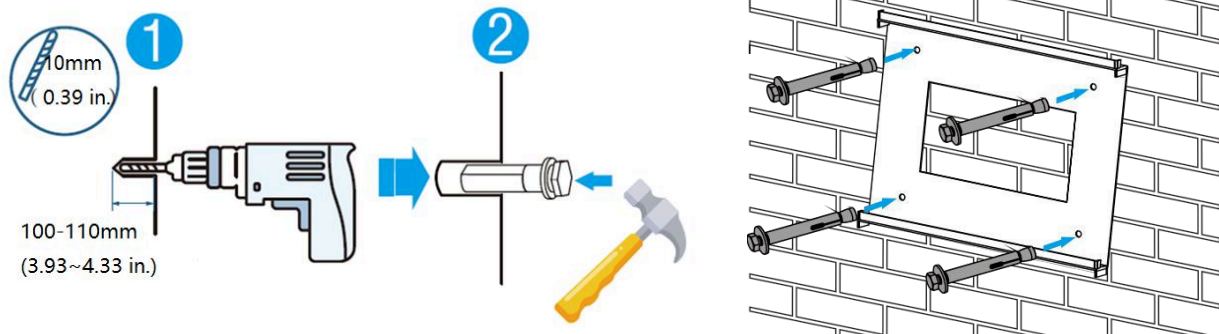
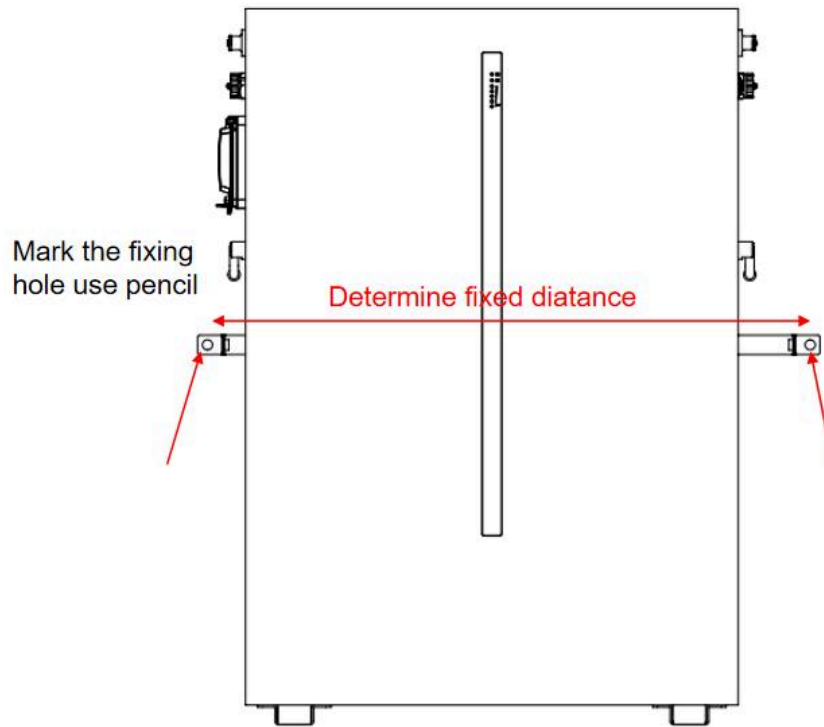

Figure 5-2
Figure 5-5
b) Choose the recommend drill head (as shown in Figure 5-2) to drill 4 holes on the wall, 100mm-110mm deep.
c) Use a proper hammer to fixing the hanging plate to the wall, fit the expansion bolt into the holes, as shown in Figure 5-2.
b) Stand the battery on the side of the wall, mark the location of the fixing hole, Choose the recommend drill head (as shown in below picture) to drill 2 holes on the wall, 100-110mm deep, as shown in Figure 5-2 and Figure 5-5.
c) Use a proper hammer to fix the battery to the wall, fit the expansion bolt into the holes, as shown in Figure 5-2.